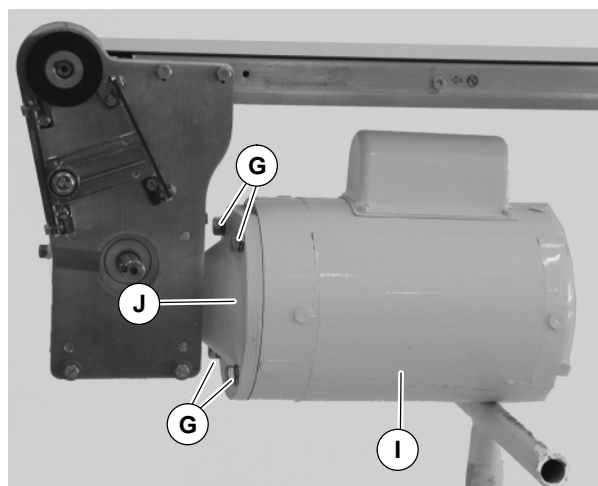

Figure 27
4. Remove screws and washers (G of Figure 27). Detach motor (I) from gear reducer (J).